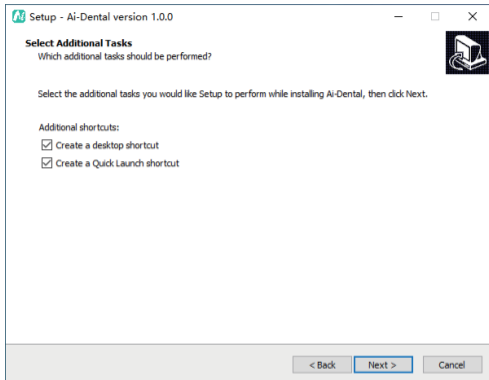

Figure 5
d) Choose whether to create a shortcut. The user selects the corresponding items as needed and clicks the "Next" button after completion, as shown in Figure 5: